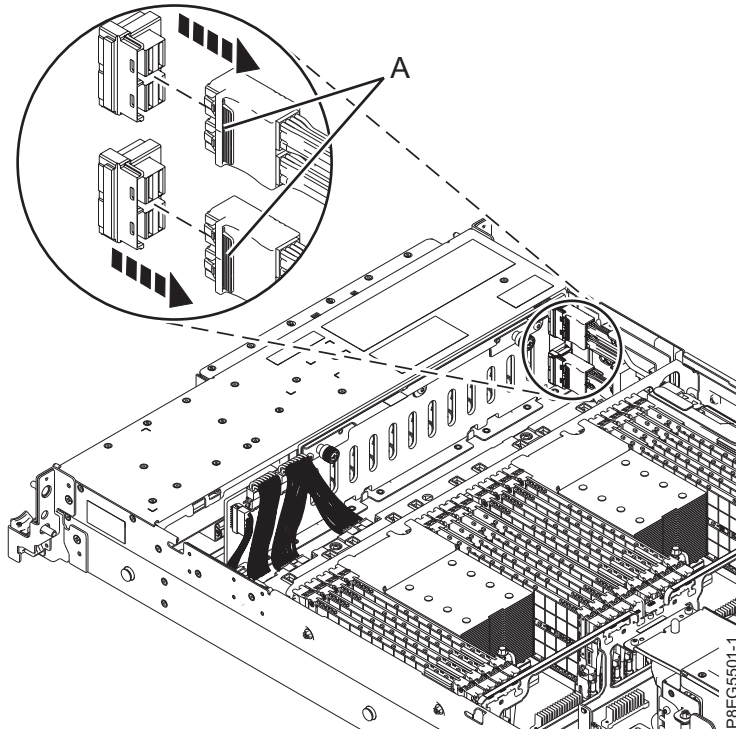

Figure 1. Disconnecting the front SAS cables from the disk drive backplane
3. You must remove the bottom SAS cable that is attached to the SAS RAID internal adapter in slot P1-C14. Label the front SAS cables that are attached to the SAS RAID internal adapter in slot P1-C14. Press the latch (A) and unplug the connector of these cables from the disk drive backplane, as shown in Figure 1 on page 3. Leave the other end of the cables plugged in to the P1 or P2 connector on the SAS RAID internal adapter until directed to unplug them.